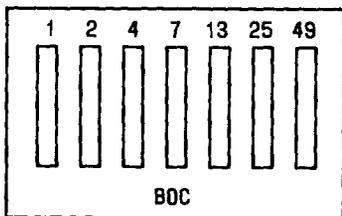

Fig. 2—J99343BM Switches
**2.03** Initial settings may be found on the CLR for existing circuits. Prescription settings are provided in Part 4 for new circuits or existing circuits where settings are not available. For the J99343BM, the control that must be adjusted is the build-out capacitance (BOC) switch. Figure 2 shows the BOC switch.